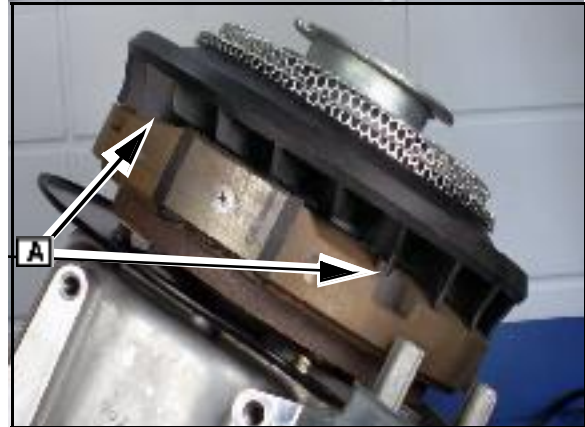

Fig. 31
4. Position the fan to allow for the magnet to fit in the fan cut-out (A) Fig. 31).